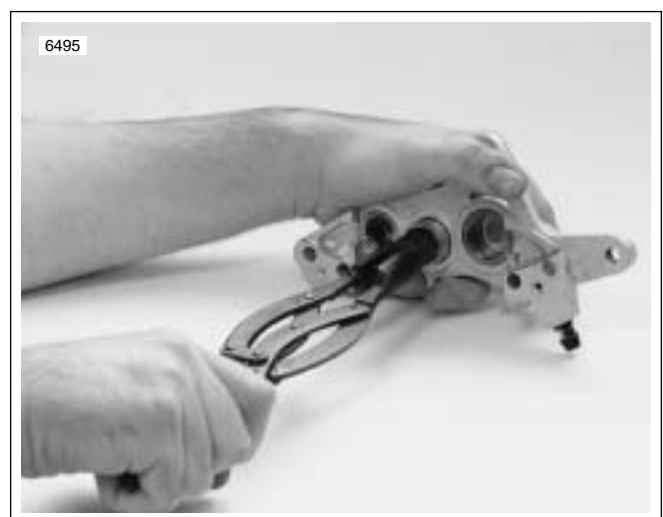

Figure 2-49. Removing Pistons (B-42887)
4. See Figure 2-49. Remove pistons using a BRAKE PISTON REMOVER (Part No. B-42887).